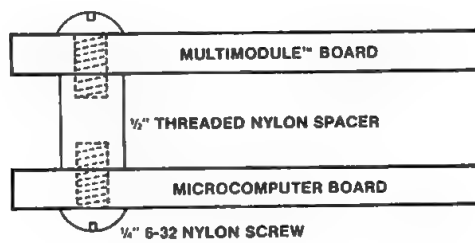

Figure 2-7. Mounting Technique
1. With one 6/32 screw, secure the 1/2 inch nylon spacer to the host microcomputer as shown in Figure 2-7.